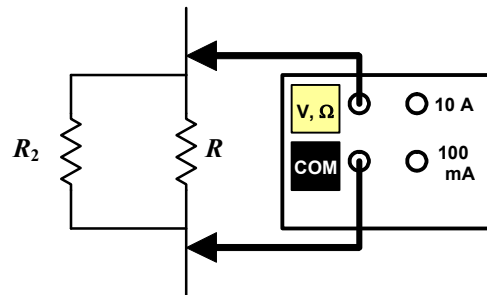

Figure E.5 Measuring the resistance of the parallel combination of R and R_2 . To measure R alone, remove it from the circuit (here, disconnected from R_2).
2. **Isolate the resistor (remove it)** from the circuit to ensure that you are not measuring a parallel combination of some other resistances, as illustrated in *Figure E.5*. (Note: the resistor does not need to be removed from the proto-board, but must be removed from the circuit).